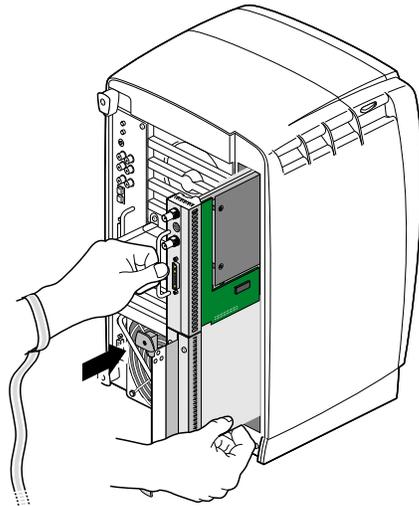

Figure 5-18 Inserting the XIO Tri-Module
Caution: To prevent damage to your workstation, reinstall the XIO Tri-Module with the VPro graphics I/O panel aligned with the top of the workstation, as shown in Figure 5-18.
3. Before you insert the XIO Tri-Module, make sure the sliding handles protrude in a locked position from the I/O panels, as shown in Figure 5-18.
If the sliding handles are flush with the I/O panels, the XIO Tri-Module will stop during insertion. Pull out the sliding handles until the sliding portion of the XIO Tri-Module looks like Figure 5-18.